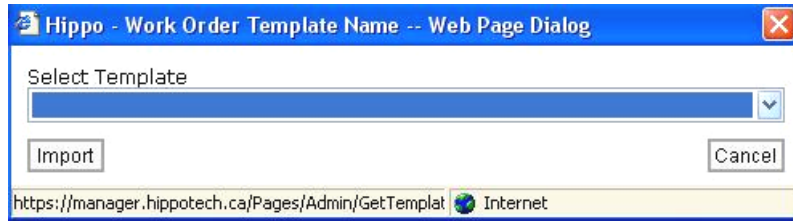

Figure 63: Adding Templates From Import From Library
- a. Click **Import From Library** to display the Import From Library window (See Figure 63)